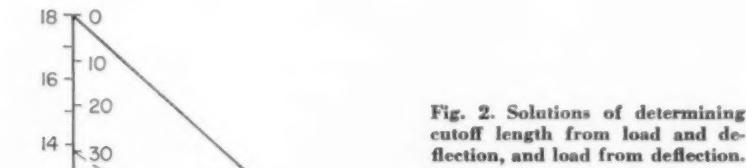

Fig. 2. Solutions of determining cutoff length from load and deflection, and load from deflection.
A typical chart is shown in Fig. 2. The spring used in this case has a free length of 18 inches and load of 83.3 lb at the solid height. These values are used to plot the scales as shown.
Spring Length from Load and Deflection: Suppose the spring in Fig. 2. is to be cut off to a length such that when a load of 30 lb is impressed upon it, the compressed length will be 7 inches. The solution to this problem is shown in Fig. 2, and the steps are numbered in order. A line (1) is drawn from point A to the load scale at 30 lb. A horizontal line (2) is then drawn from the 7-inch point on the length scale to intersect this line. This intersection determines the location of the vertical line representing cut-off spring. The height is projected horizontally to the length scale on the left (3) giving 9 1/4 inches as the required cutoff length.
Load from Deflection: If the spring in the foregoing example is compressed to a length of 4 inches, what is the load? This solution is also shown in Fig. 2. Draw a horizontal line from the 4-inch length on the scale (4) to intersect the vertical line. Draw a line (5) through point A through the intersection and extend it to the load scale. The value of the load at this condition is 72 lb.